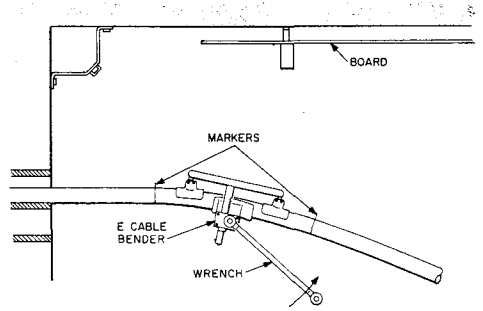

Fig. 3—Making First Bend With D or E Cable Bender
- (2) Support the end of the cable with a rope tied to a cable rack or to the manhole guard above the manhole. The cable may be moved in the direction of the bend by using the cable bender as a fulcrum.
- (3) Remove the center shoe of the bender from the rack guides and place the frame on the cable. Replace the center shoe and bring it to bear slightly on the cable by turning the pinion with the wrench. Be sure the center shoe is properly aligned before applying pressure on the wrench.
- (4) Move the bender to the position shown in Fig. 3, and deflect the cable approximately $1/8$ inch by turning the wrench and moving the end of the cable in the direction of the bend. Return the wrench to the starting position. Move the bender approximately $1/4$ inch along the cable away from the duct and deflect the cable again. Repeat these operations until the desired bend is made, keeping the radius of the bend as large as practicable.